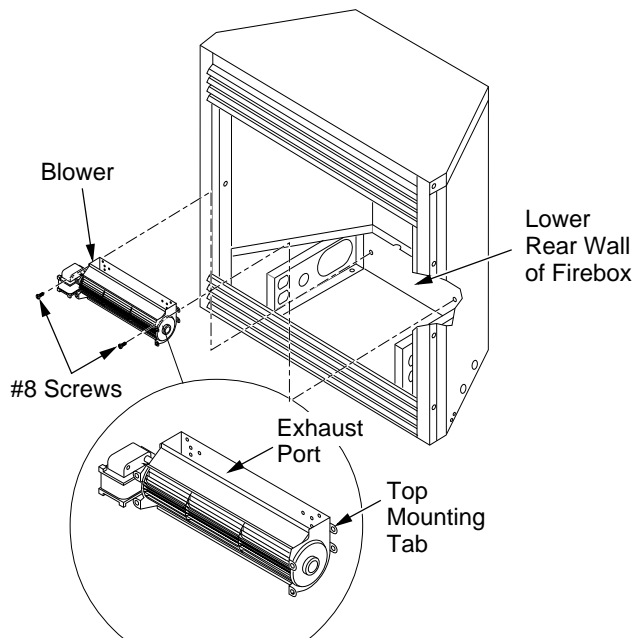

Figure 19 - Mounting Blower to Firebox (VTGF33NR/VTGF33PR Shown)
3. Place the blower against lower rear wall of firebox outer wrapper with the exhaust port directed upward. Align the holes in top mounting tabs of blower with holes in wall of wrapper (see Figure 19, page 14). Using two #8 screws provided, mount blower and tighten screws firmly.